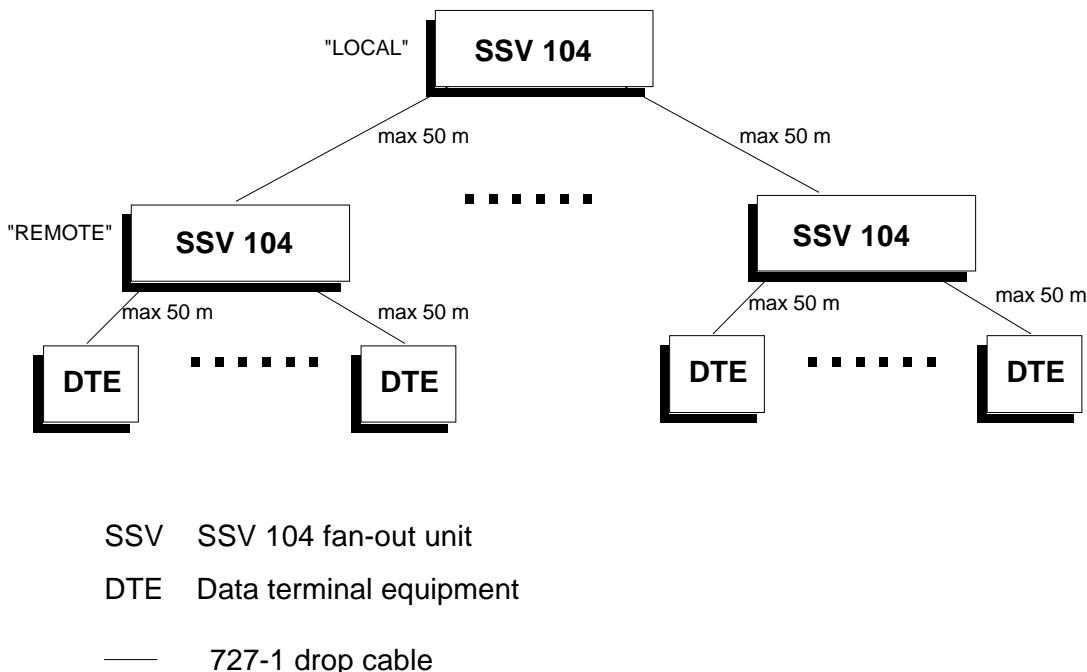

Fig. 2.14: Cascading SSV 104 Fan-Out Units
- Stand-alone mode cascading SSV 104s in two levels (see Fig. 2.14):